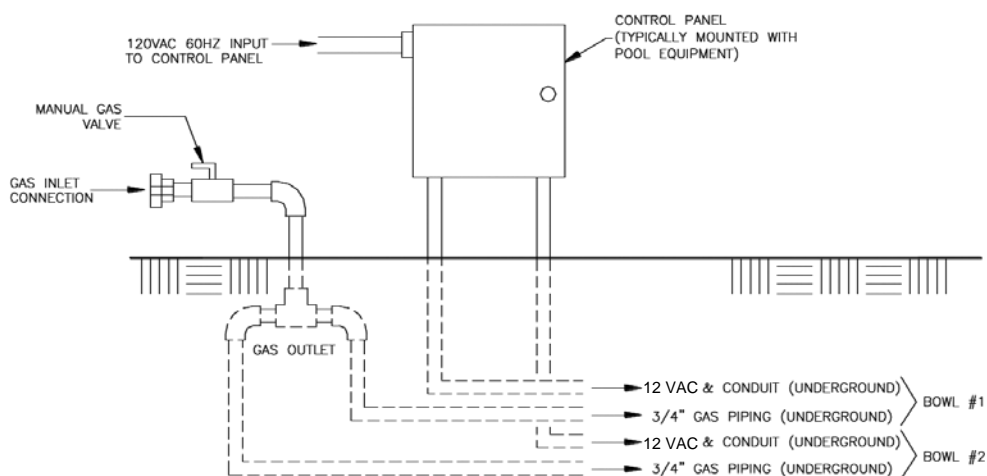
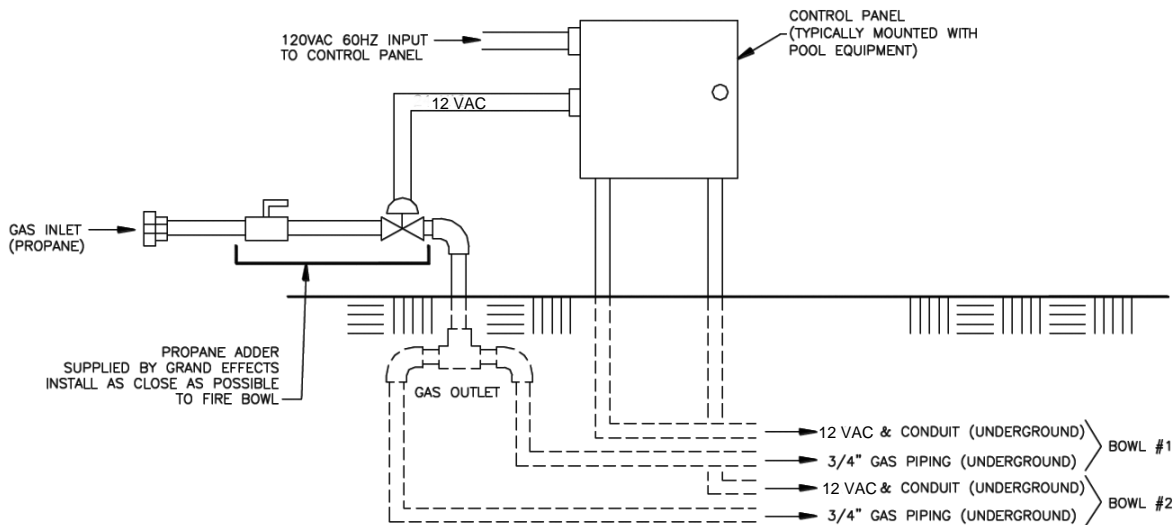
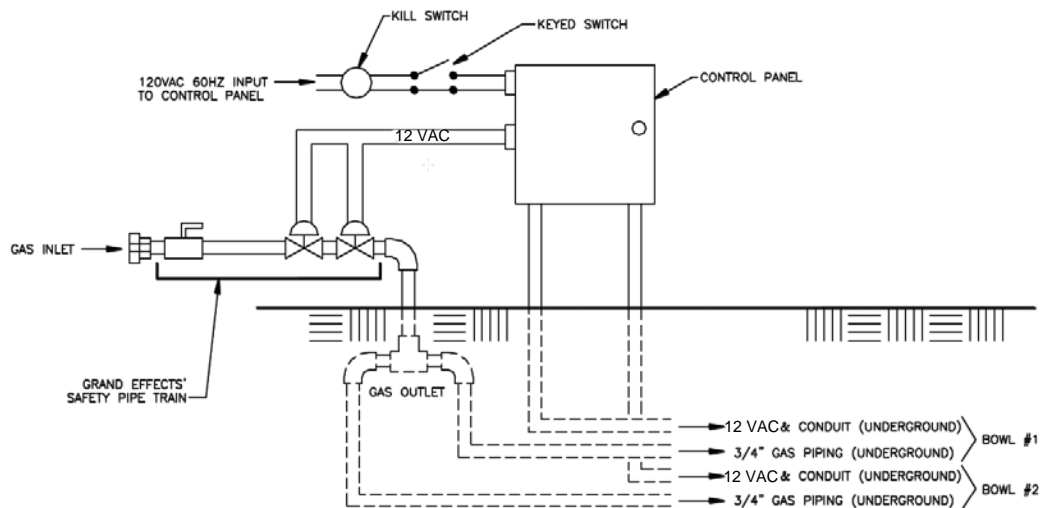

Figure 1: Natural Gas
Figure 2: Propane Gas
Figure 3: Commercial Installation
1. Install the control panel and gas piping as shown in Figure 1: Natural Gas, Figure 2: Propane Gas, or Figure 3: Commercial Installation. Gas lines must be clean and free from any dirt, debris, or contamination.
Note: Propane piping is different than natural gas piping (shown in Figure 1 and Figure 2).
2. The gas piping must be installed underground between the control panel and each fire bowl, as shown in Figure 1.